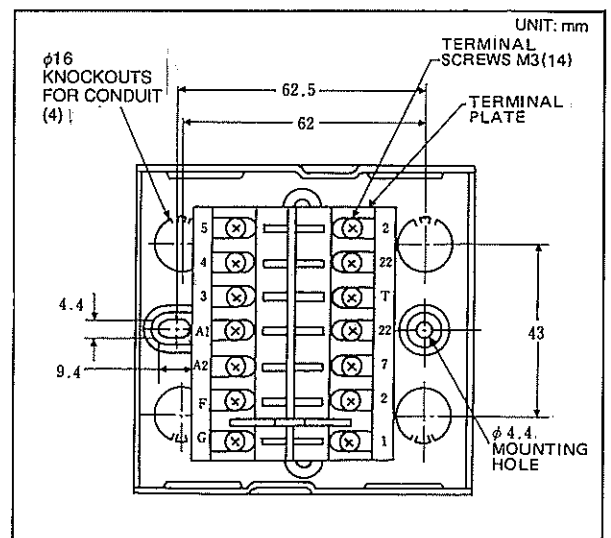
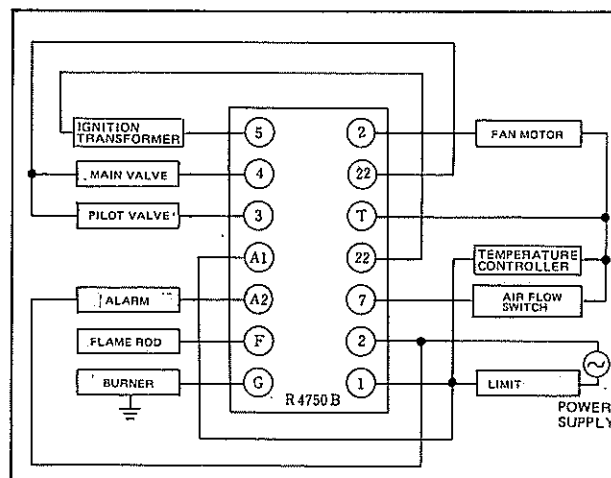

Fig. 2 Subbase mounting dimensions and terminal layout
Fig. 3 Example of wiring Protectorelay with external equipment
SUBBASE MOUNTING DIMENSIONS: See Fig. 2
- (1) Fig. 2 shows the layout of the terminals on the subbase, and Fig. 3 shows an example of wiring between the subbase and external equipment.